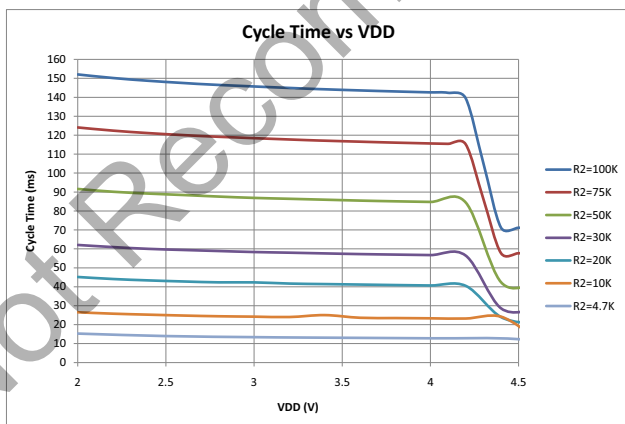

Figure 6. Cycle Period vs. V_{DD}
| 1. Max column also applies to $V_{DD} > 3.6\text{ V}$. See Figure 6. | | | | | | |
- Updated Figure 1 and Figure 6.